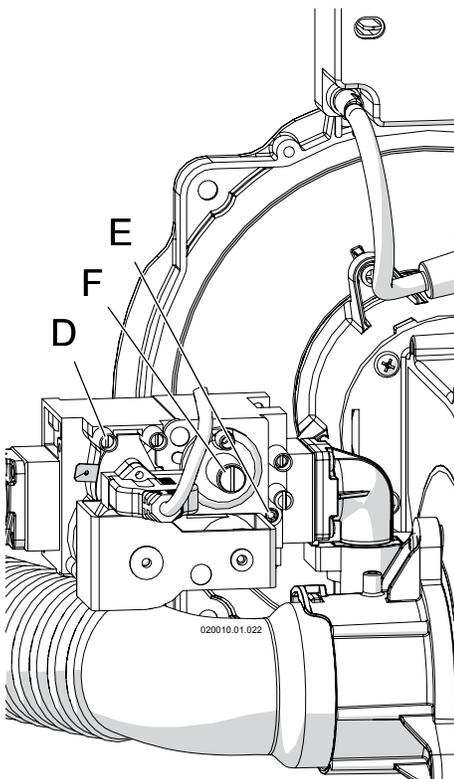

Figure 15-1 Gas valve
3. turn the screw in pressure port "D" shown in Figure 15-1 three turns counterclockwise;
4. connect a manometer with graduations of at least 0.1 in.W.C. (0.25 mbar) to the inlet gas port "D" shown in Figure 15-1 (on unit model 399 to 1000, choose the pressure port "D" from any gas valve present).
3. turn the screw in pressure connection "D" in Figure 15-1, clockwise until snug;
4. check pressure port "D" (Figure 15-1) for any gas leaks;
6. compare the CO2 reading with the high fire range given in Figure 14-7, making sure to use the range for the gas type in use. If the CO2 reading is outside the specified range, it must be adjusted operating on the "E" screw of Figure 15-1. Use a 2.5mm Allen Wrench to turn the screw (clockwise to reduce the CO2 level, counter-clockwise to increase the CO2 level) in small increments and wait for the CO2 to stabilize to prevent overshooting the desired value;
- e. compare the CO₂ reading with the high fire range given in Figure 14-7, making sure to use the range for the gas type in use. If the CO₂ reading is outside the specified range, it must be adjusted operating on the "E" screw of Figure 15-1 of the gas valve closer to the burner unit in fire. Use a 2.5mm Allen Wrench to turn the screw (clockwise to reduce the CO₂ level, counter-clockwise to increase the CO₂ level) in small increments and wait for the CO₂ to stabilize to prevent overshooting the desired value;
- f. when CO₂ level match the value of Figure 14-7, seal screw "E" (Figure 15-1) with red paint or nail polish to discourage tampering.